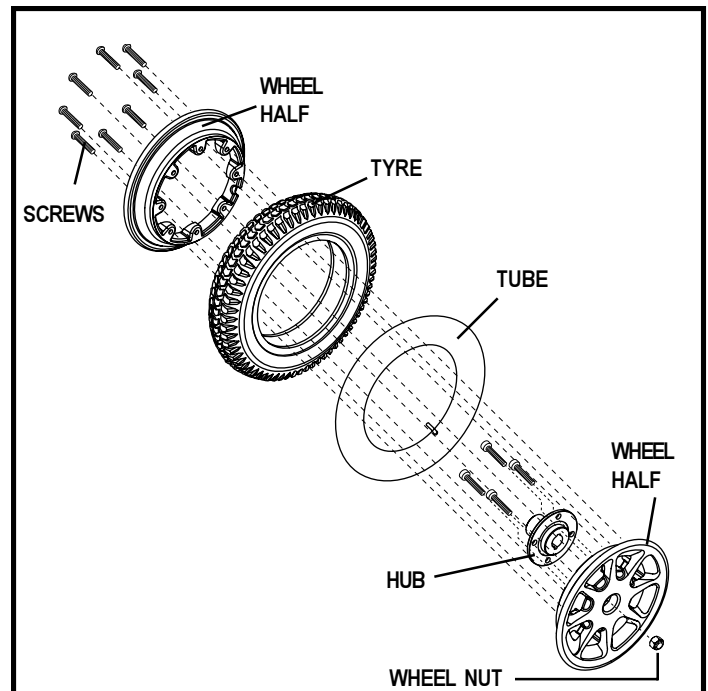

Figure 26. Quantum Dynamo ATS Wheel Assembly
6. Remove the screws that fasten the two wheel halves together. See figure 26.